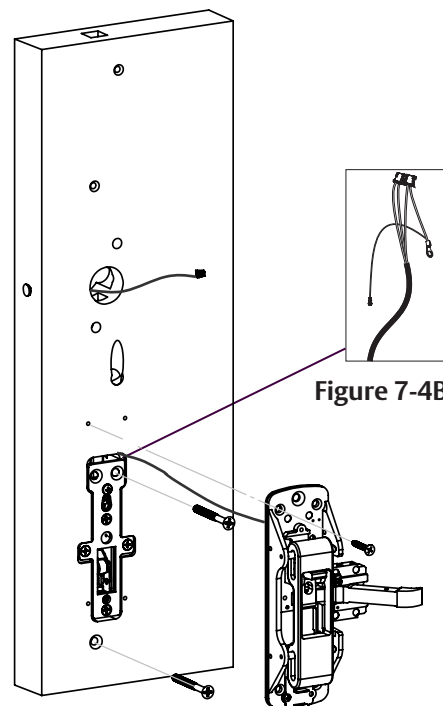

Figure 7-4A
1. Mount exit chassis loosely, using only the top left mounting screw. Screw should support the weight of the chassis but allow it to move freely while routing the wiring and mounting exit trim. (Figure 7-4A).
3. Insert two (2) trim mounting screws. (Figure 7-4A)